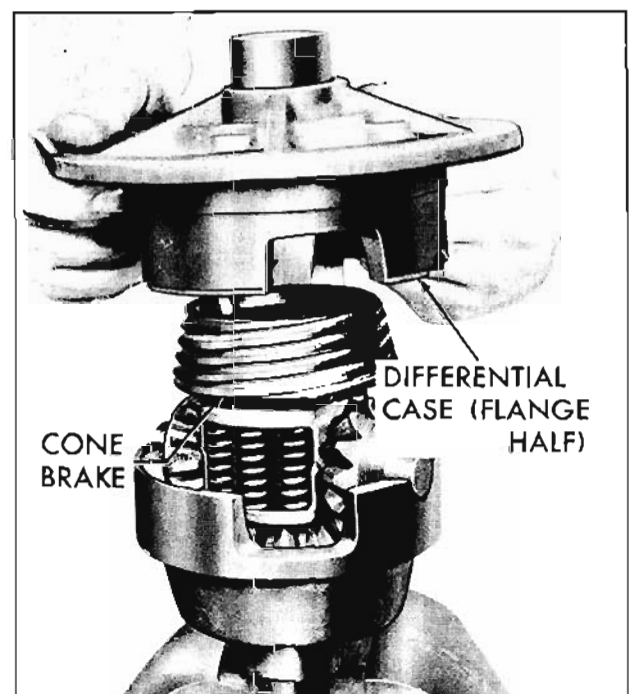

Fig. 10-139 Assembling Case
8. Install flange side of differential assembly over cone in proper position to match alignment marks; insert two bolts finger tight 180° apart. (Fig. 10-139)